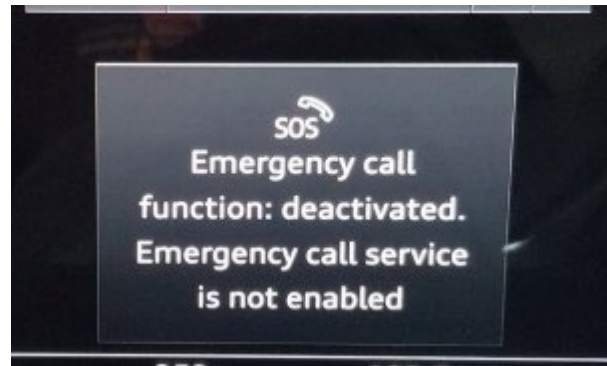

Figure 1. SOS warning in the instrument cluster.
- The warning message “SOS Emergency call function deactivated” is seen in the instrument cluster (Figure 1 or 2).